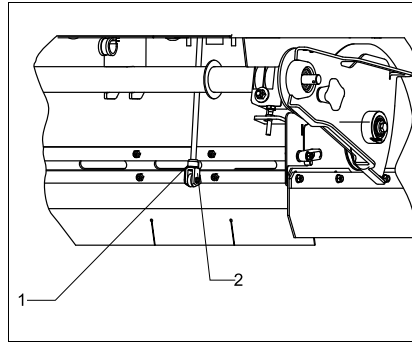

Fig.15 Adjust folding apron
- Remove bolt (Fig. 15/2).
- Modify adjustment by turning the fork head (Fig. 15/1).